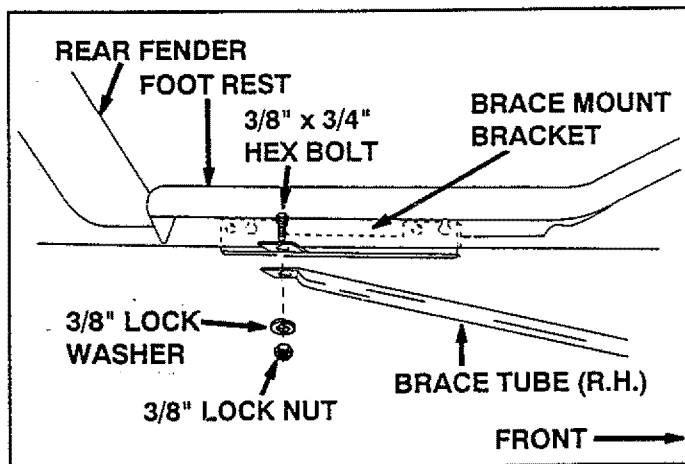

FIGURE 5 (Right hand side view)
- Attach brace tube to brace mount bracket using the 3/8" x 3/4" hex bolt already assembled in previous step. Secure with a 3/8" lock washer and 3/8" lock nut. Repeat this step on opposite side. **Do not tighten at this time.** See figure 5.